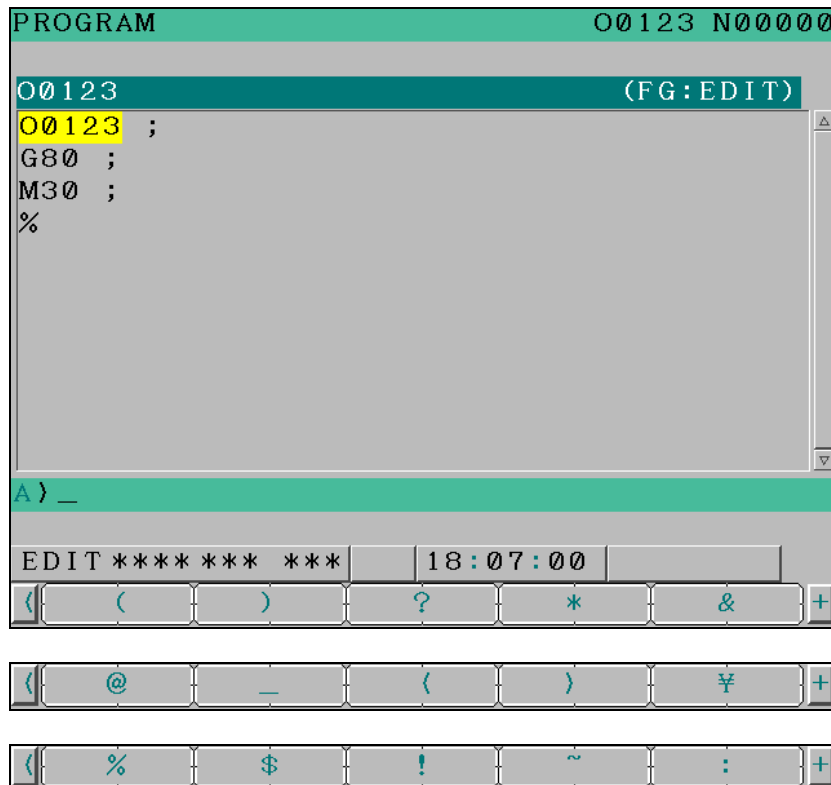

Fig. 10.12 (a) Compact-type MDI key input
5. As shown in Fig. 10.12 (a), characters such as "@" and "(" appear as soft keys.